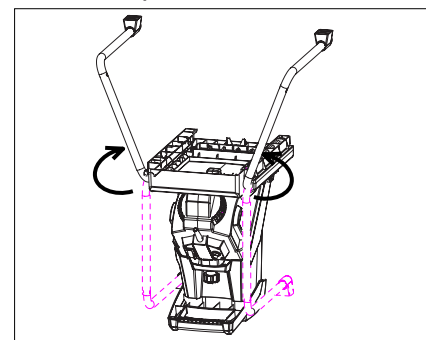

Fig. 1
1. Turn the machine upside down on a flat surface and rotate the two brackets from the outside of the machine to the upright position (Fig. 1).